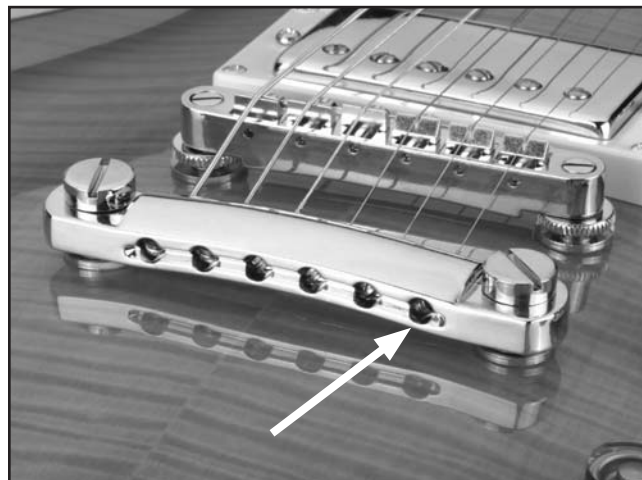

Figure 22. 1st string installation hole.
1. Slide the 1st string through the corresponding hole in the bridge (**Figure 22**).